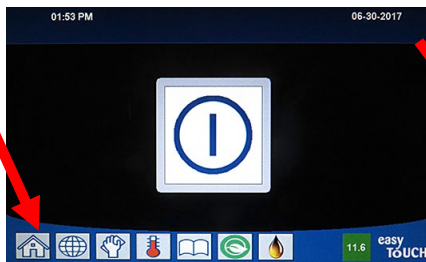

Figure 21
15. Once the fryer reboots, **WAIT FIVE (5) MINUTES** before proceeding to the next step.
16. Press the "HOME" button on the (see Figure 21).
22. Press the "HOME" button (see Figure 21 on previous page) when finished.